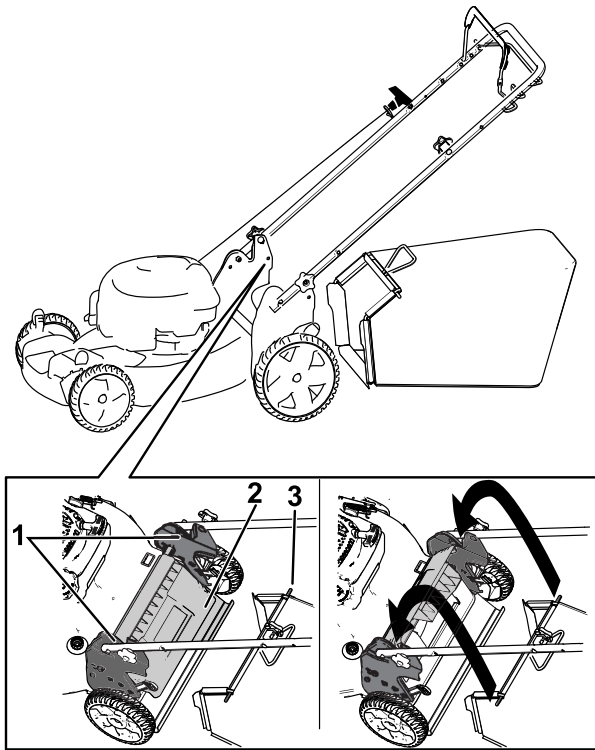

Figure 20
1. Raise and hold up the rear deflector (Figure 20).